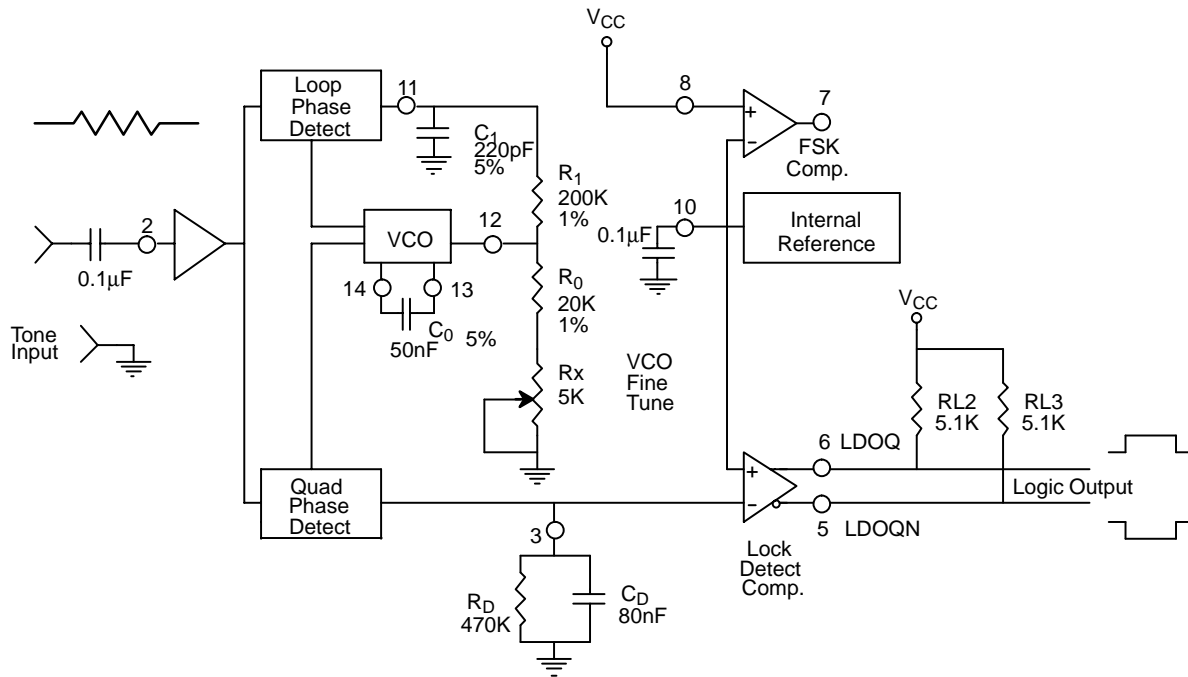

Figure 12. Circuit Connection for Tone Detection
*Figure 12* shows the generalized circuit connection for tone detection. The logic outputs, LDOQN and LDOQ at pins 5 and 6 are normally at “high” and “low” logic states, respectively. When a tone is present within the detection band of the PLL, the logic state at these outputs become reversed for the duration of the input tone. Each logic output can sink 5mA of load current.
Both outputs at pins 5 and 6 are open collector type stages, and require external pull-up resistors  $R_{L2}$  and  $R_{L3}$ , as shown in *Figure 12*.
With reference to *Figure 3* and *Figure 12*, the functions of the external circuit components can be explained as follows:  $R_0$  and  $C_0$  set VCO center frequency;  $R_1$  sets the detection bandwidth;  $C_1$  sets the low pass-loop filter time constant and the loop damping factor.
The circuit of *Figure 12* can be optimized for any tone detection application by the choice of the 5 key circuit components:  $R_0$ ,  $R_1$ ,  $C_0$ ,  $C_1$  and  $C_D$ . For a given input, the tone frequency,  $f_S$ , these parameters are calculated as follows: